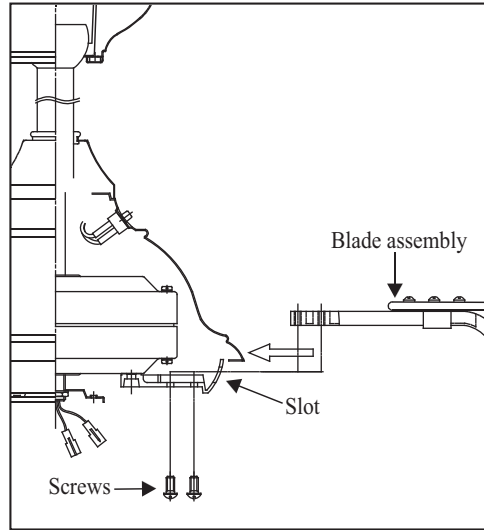

Figure 16
3. Insert the blade arm through the slot in blade arm holder. Align holes in blade arm and motor and secure with the screws provided. (Fig. 16)